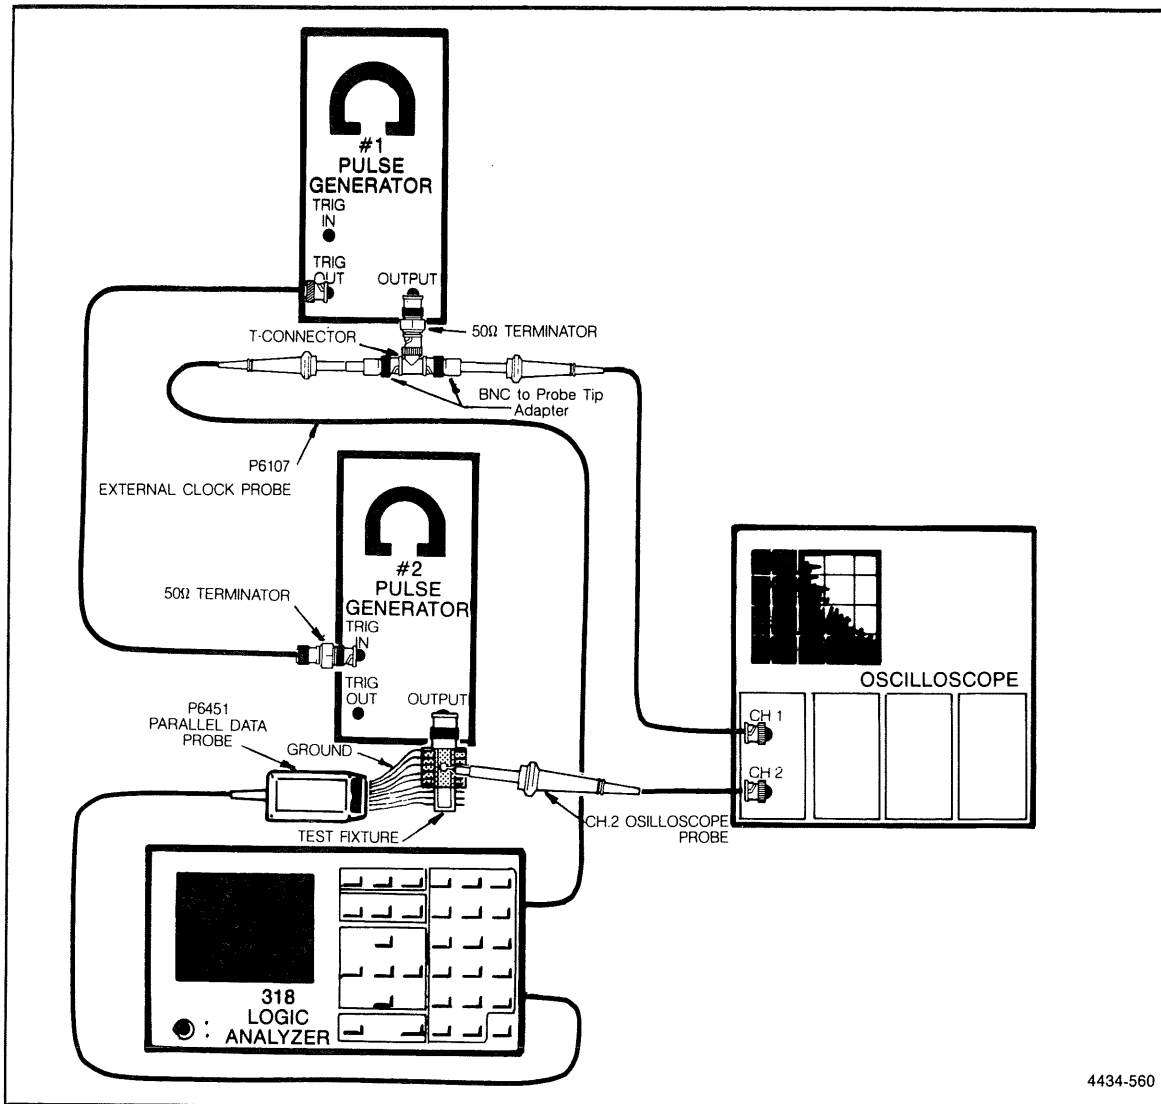

Figure 2-29. 318A Glitch data acquisition test setup.
57. Adjust the DD501 EVENTS LEVEL slowly until the channel 2 waveform's falling edge crosses the channel 1 waveform's rising edge at 0 V (mid-screen). See Figure 2-29 (14 nS setup, 0 nS hold).
68. Adjust the DD501 EVENTS LEVEL slowly until the channel 2 waveform's falling edge crosses the channel 1 waveform's rising edge at 0 V (mid-screen). See Figure 2-29 (14 nS setup, 0 nS hold).
- a. Refer to Figure 2-29. Connect a 50 Ω terminator to the #1 pulse generator's OUTPUT. Connect a BNC T-connector to the 50 Ω terminator. Connect the P6107 External Clock probe to one side of the BNC T-connector.